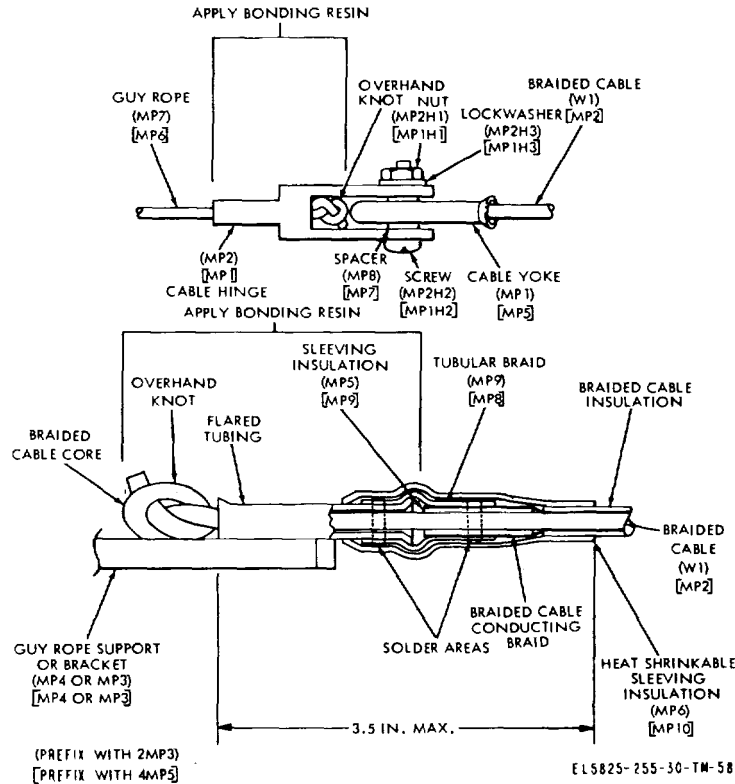

Figure 3-24. Antenna Repair.
The following procedures describe the repair of the two top loading antenna assemblies, SM-D-551050 and SM-D-551086, part of Antennas AS-26331 TRN-30(V) (SM-D-551050) and AS-26341 TRN-30(V) (SM-D-551042), respectively (fig. 3-24).
(1) Clean bonding resin from guy rope support (2MP3MP4 or 4MP5MP4) or bracket (2MP3MP3 or 4MP5MP3).
(2) Cut away heat shrinkable sleeving insulation (2MP3MP6 or 4MP5MP10).
(3) Cut away overhand knot that secures braided cable core.
(4) Unsolder tubular braid (2MP3MP9 or 4MP5MP8) from flared tubing.
(5) Remove damaged braided cable (2MP3W1 or 4MP5MP2).
(6) Also remove damaged braided cable from cable yoke (2MP3MP1 or 4MP5MP5).
(7) Cut a length of new braided cable to replace the damaged braided cable. Use the damaged braided cable or one of the braided cables attached to the top loading assemblies as a guide. Include enough new braided cable to make the connections to the guy rope support and the bracket.
(8) Feed braided cable through cable yoke (2MP3MP1 or 4MP5MP5).
(9) Cut away braided cable insulation and braided cable conducting braid to the relative length shown in figure 3-24.
(10) Cut a length of sleeving insulation (2MP3MP5 or 4MP5MP9). Insert sleeving insulation underneath braided cable conducting braid as shown.
(11) Cut a length of heat shrinkable sleeving insulation (2MP3MP6 or 4MP5MP10) long enough to cover the completed connection, as shown, and slide insulation over braided cable.
(12) Cut a length of tubular braid (2MP3MP9 or 4MP5MP8) long enough to be connected between the flared tubing and the braided cable conducting braid as shown.
(13) Slide tubular braid over braided cable con
ducting braid to the relative position shown in figure 3-24.
(16) Solder tubular braid to flared tubing and braided cable conducting braid as shown.
(17) Slide heat shrinkable sleeving insulation over connection and shrink into place using a suitable heat source.
(18) Mix equal amounts of resin (Shell Chemical Co. EPON 828, or equivalent) and catalyst (General Mills Chemicals, Inc. Versamid 140, or equivalent) and apply where shown. Cure for 2 hours at 1500 F, or for 8 hours at room temperature.
b. Perform the following steps to repair a broken guy rope (fig. 3-24):
(1) Clean bonding resin from cable hinge (2MP3MP2 or 4MP5MP1).
(2) Remove nut (2MP3MP2H1 or 4MP5MP1H1), lockwasher (2MP3MP2H3 or 4MP5MP1H3), and screw (2MP3MP2H2 or 4MP5MP1H2). Remove cable yoke (2MP3MP1 or 4MP5MP5) and spacer (2MP3MP8 or 4MP5MP7).
(3) Cut overhand knot from broken guy rope (2MP3MP7 or 4MP5MP6).
(4) Cut a length of new guy rope to match the broken guy rope to be replaced.
(5) Insert new guy rope through cable hinge (2MP3MP2 or 4MP5MP1) and tie overhand knot.
(6) Mix equal amounts of resin (Shell Chemical Co. EPON 828, or equivalent) and catalyst (General Mills Chemicals, Inc. Versamid 140, or equivalent) and apply where shown. Cure for 2 hours at 1500 F or for 8 hours at room temperature.
(7) Reposition cable yoke (2MP3MP1 or 4MP5MP5) and spacer (2MP3MP8 or 4MP5MP7). Secure with screw (2MP3MP2H2 or 4MP5MP1H2), lockwasher (2MP3MP2H3 or 4MP5MP1H3), and nut (2MP3MP2H1 or 4MP5MP1H1).